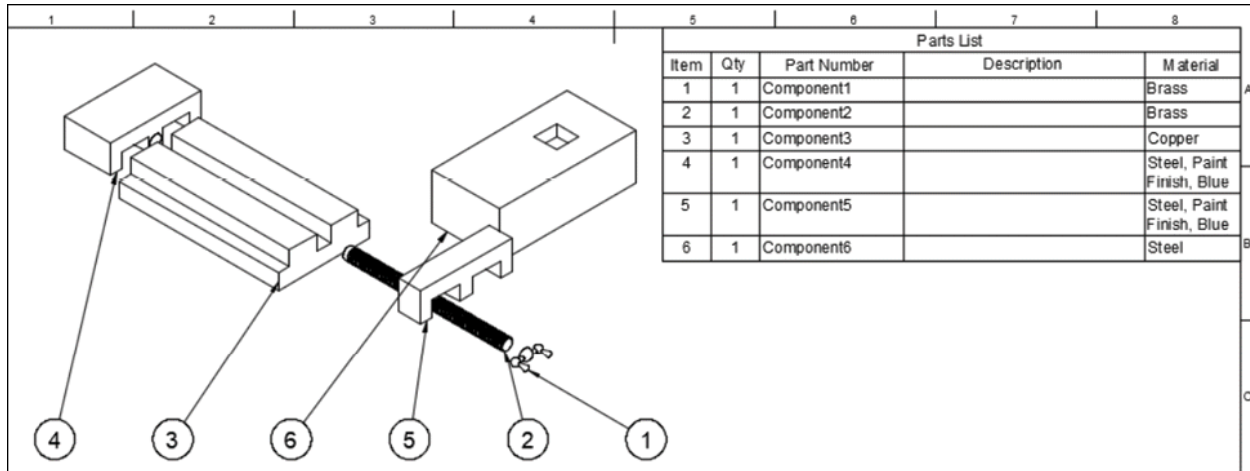

Figure-110. Parts List of assembly
- Click at desired location in the drawing to place the parts list. Parts list will be generated with balloons; refer to Figure-110.